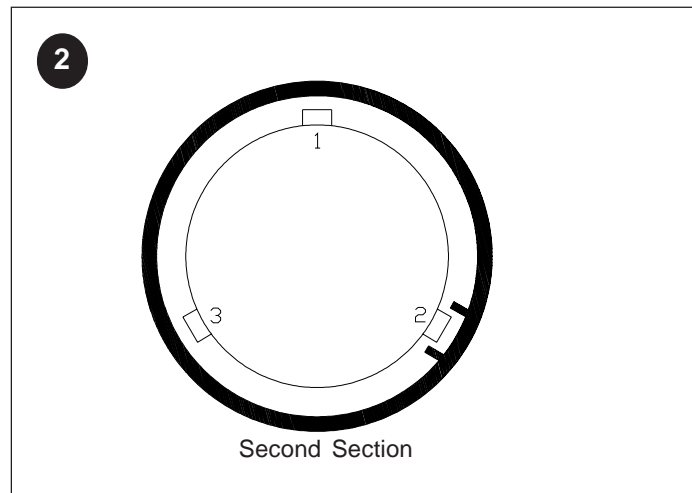

figure 24
- c. Place the second section on the core with the drive pins on either side of tube 2. Be sure the drive pins angle down (figure 24).